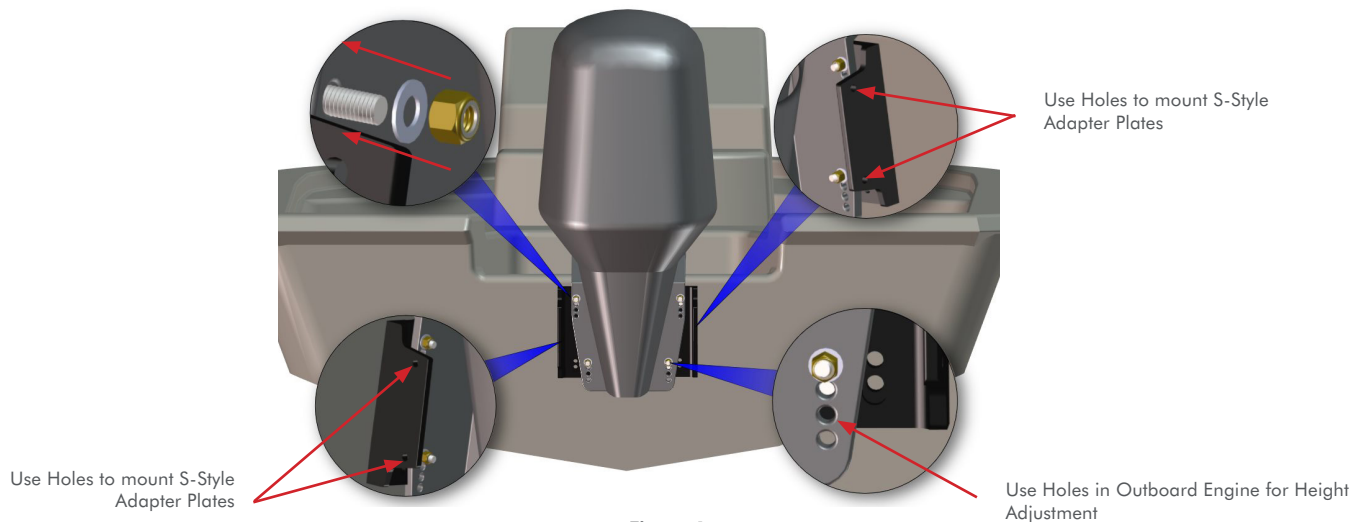

Figure 6
STEP 6: Remount your outboard engine using the hardware recommended by your boat manufacturer and torque to their specifications. **FIG 6**